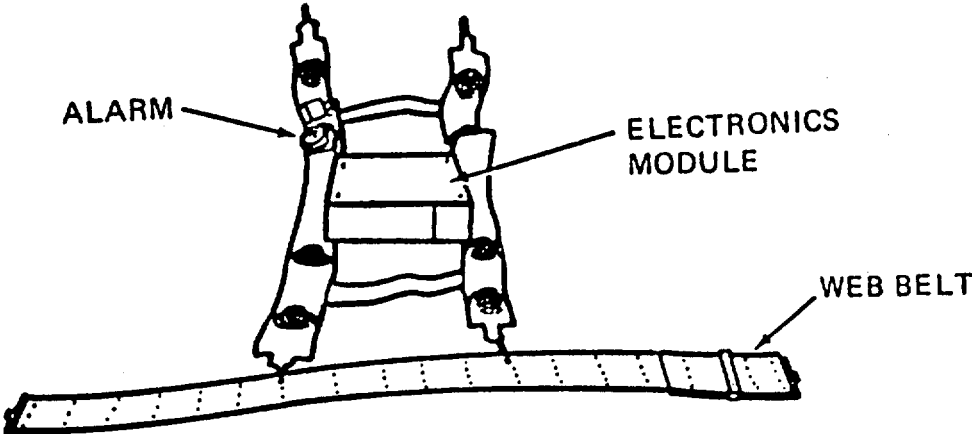

FIGURE 3-4. Attaching the Torso Harness to the Web Belt
- 1. Position the web belt next to the Torso Harness as shown in Figure 3-4 (the alarm should be positioned above the electronics module). If suspenders are attached to the web belt, remove them.